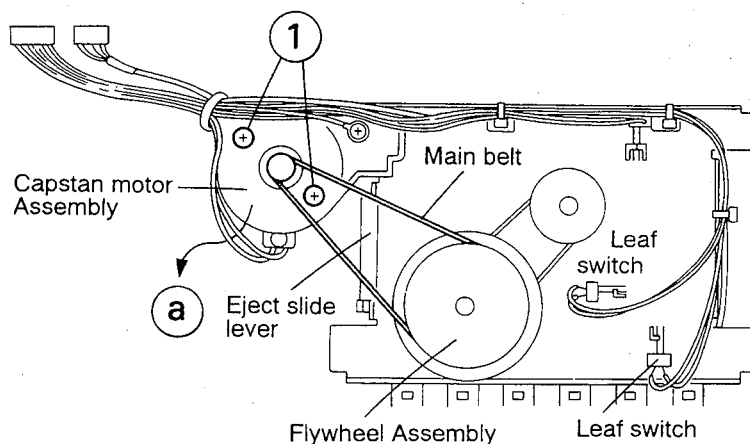

Fig. 2 - 24
■ Capstan motor (Fig. 2 - 24)
5. Remove two screws(1) retaining the capstan motor assembly from the back of the cassette mechanism .